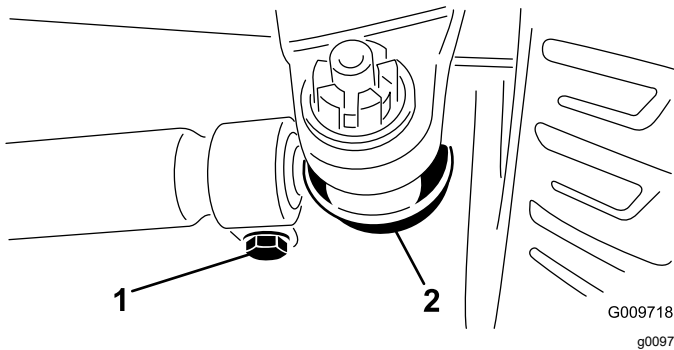

Figure 76
3. To adjust, remove the cotter pin and nut from either tie rod ball joint (Figure 76). Remove the tie-rod ball joint from the axle-case support.
4. Loosen the clamps at both ends of the tie rods (Figure 76).